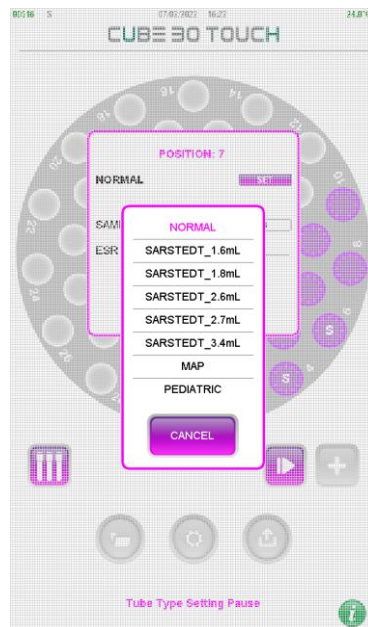

Figure 38 - Menu choice type of tube
- 3) Choose the type of tube from the menu or press the 'CANCEL' button (Figure 38)